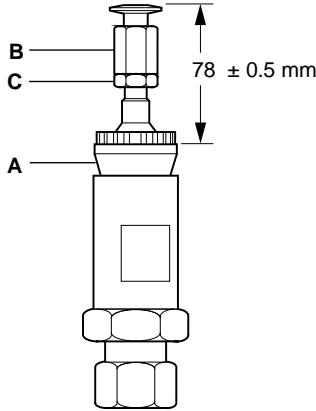

Fig. 12
For Self-acting valves firstly attach the linkage kit EL3808 or EL3809 to the valve bonnet (A) as shown in Fig. 12.